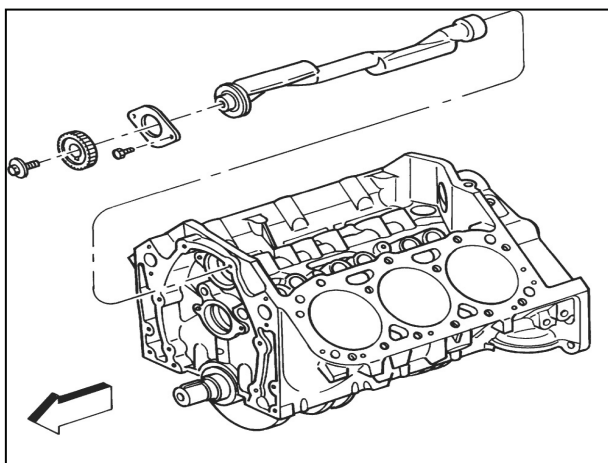

Figure 12-74 Balance Shaft and Components
2. Balance shaft into block using J 36996 and J 8092 (figure 12-74).